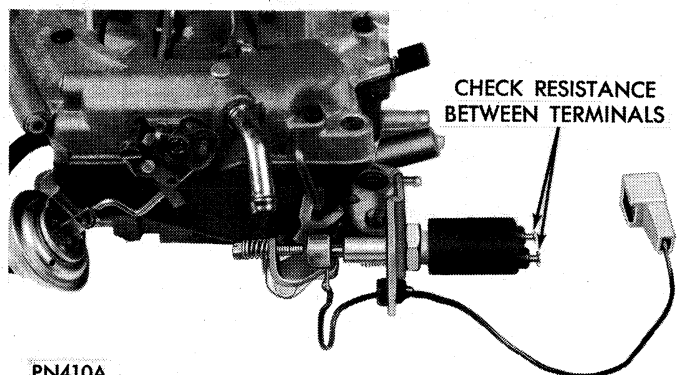

Fig. 20—Check for resistance at throttle transducer terminals
(1) Make sure ignition switch is in the "OFF" position and then disconnect single connector from bottom of "Spark Control Computer."
(2) With an ohmmeter measure resistance between terminals 8 and 9 of connector (Fig. 19). Resistance should be between 60 and 90 ohms. If it is reconnect single connector and proceed to Step 3. If it isn't remove connector from "Throttle Position Transducer" and measure resistance at transducer terminals (Fig. 20). If resistance is now between 50 and 90 ohms, this means there is an open, short, or poor connection of the wires between terminals 8 and 9 of connector and terminals that connect to the transducer. If resistance is not within specifications replace "Throttle Position Transducer".
(3) Position throttle linkage on fast idle cam, ground the carb switch with a jumper wire, disconnect wiring harness connector from "Throttle Position Transducer," and connect it to a known good transducer of the same type that can be used for testing.
(4) Move core of test transducer in so that it is